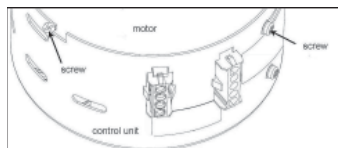
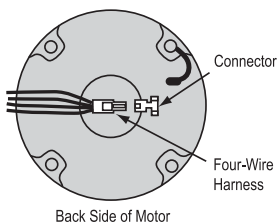

Figure 7a
Figure 8a
2. Loosen two screws securing the motor and control unit together. Twist the control unit and pull away from motor until both units are separated [Figure 7a].
3. Disconnect the four-wire motor-to-control harness from the motor end [Figure 8a] and remove control unit [Figure 7a]. Inspect for bent, damaged, or recessed wires and terminals inside of connector.